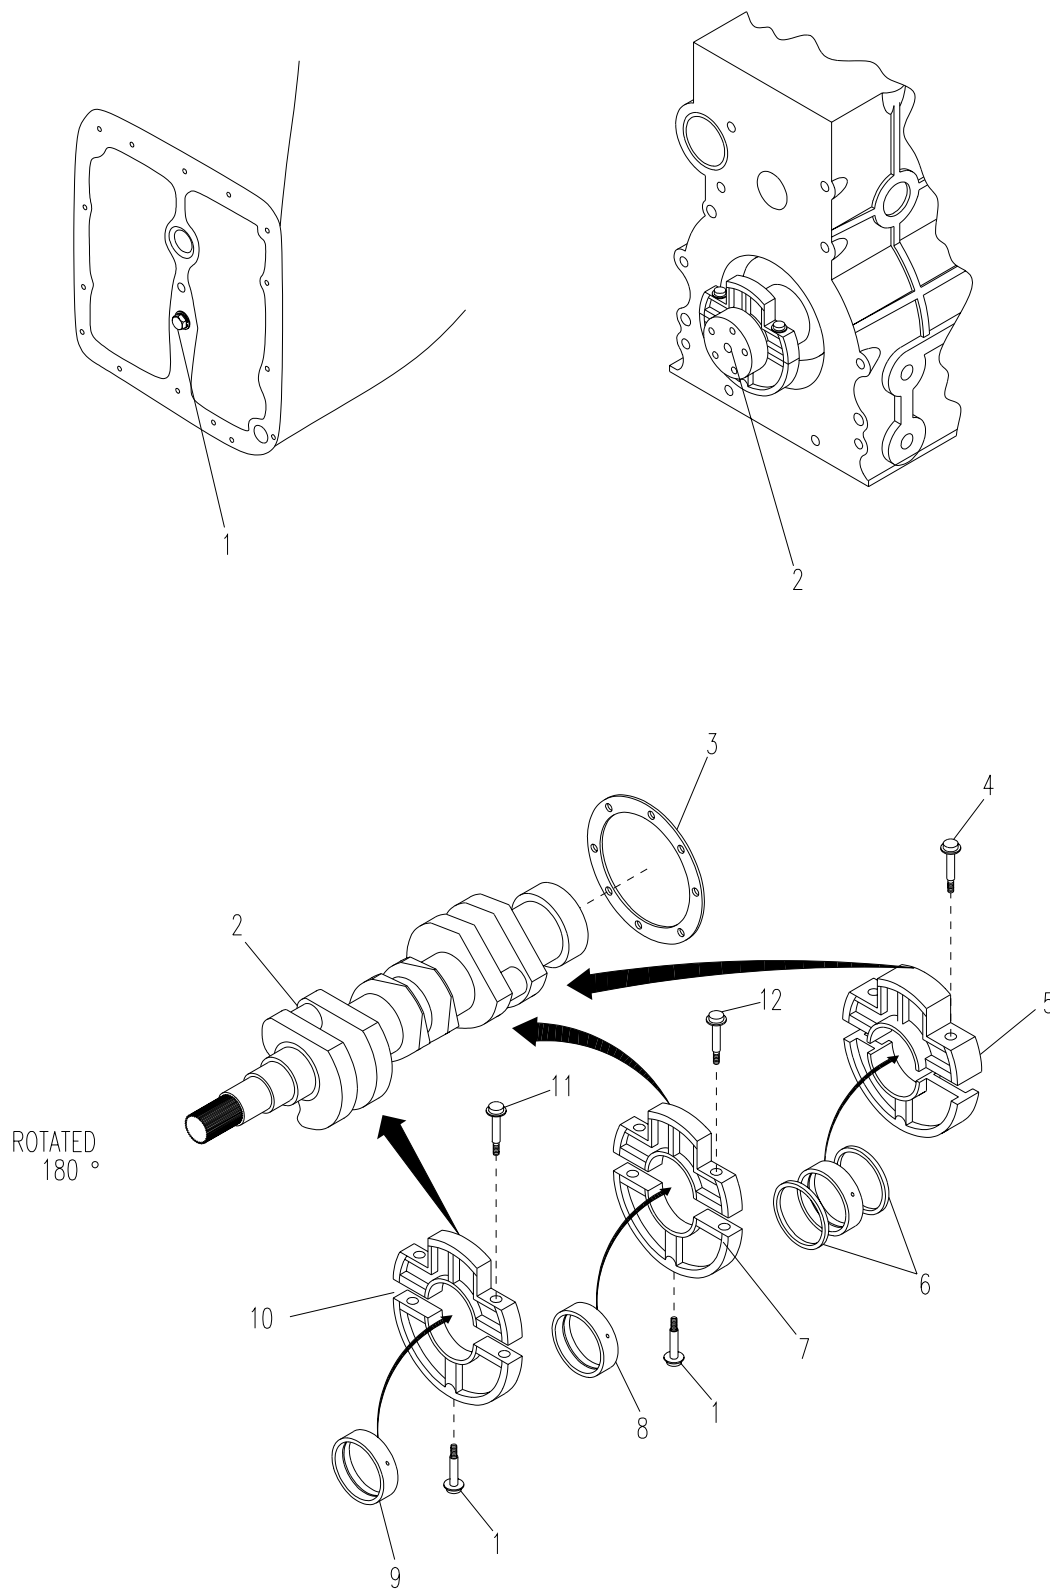

Figure 6-23. Crankshaft
- a. Remove two bolts (1, Figure 6-23) securing bearing case assembly 2 and bearing case assembly 3 to engine.
- b. Remove crankshaft from engine (2).
- c. Remove bearing case gasket (3).
- d. Remove one bolt (4), bearing case assembly 1 (5), and thrust bearings (6).